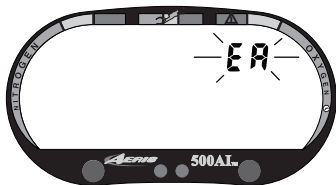

Fig. 25 - EA Mode
- press Advance (Left) button to 'bypass EA Mode' (Fig. 25) and revert to Surface Mode